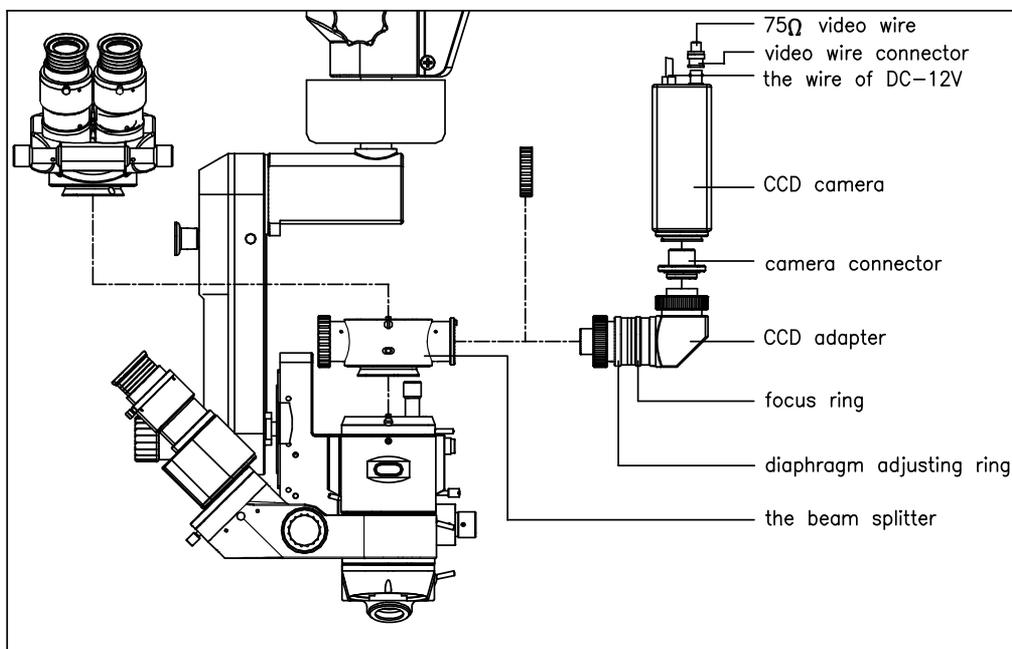

Fig.7
- 3.7.10 Finally fit the eyepiece to the beam splitter(indicated in Fig. 7).